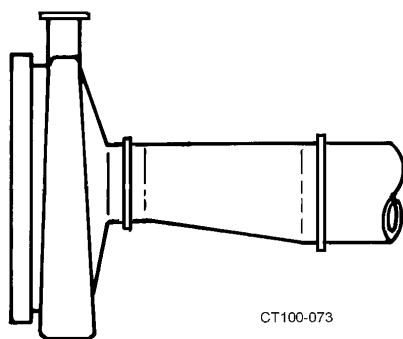

Figure 15 - Correct Eccentric Installation
- If a reducer is connected to an inlet, use an eccentric-type reducer to prevent problems caused by trapped air (Figure 15).